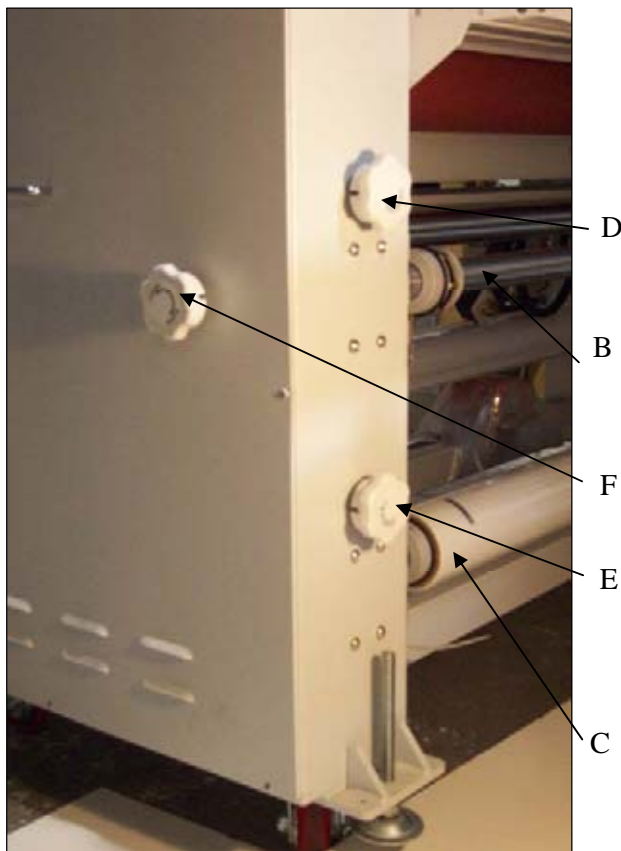

Figure 4
Swing out film unwind shaft is used to provide tension to materials going into the lamination roles. The unwind is located on the lower front of laminator. (Fig. 4 – Item C)
**Unwind / Rewind Combo:** (Fig. 4 & 5)